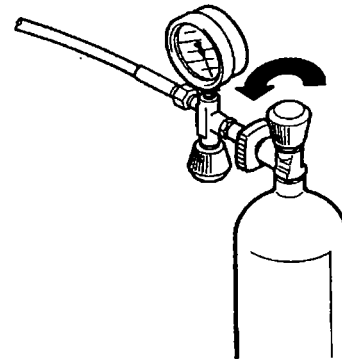

Fig. 7 Connecting air bottle
- Connect air bottle to filling valve (see Fig. 7).